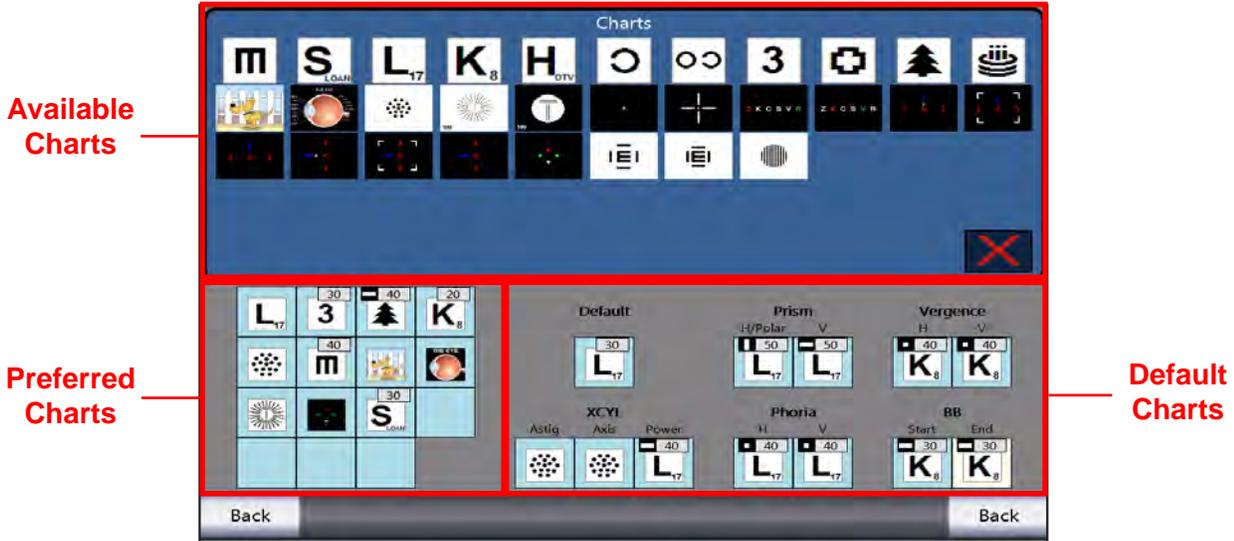

Figure IS-29, Charts Screen
1. Touch an empty box or the Chart you want to change in the preferred charts section of the screen. (Please refer to Figure IS-29.)